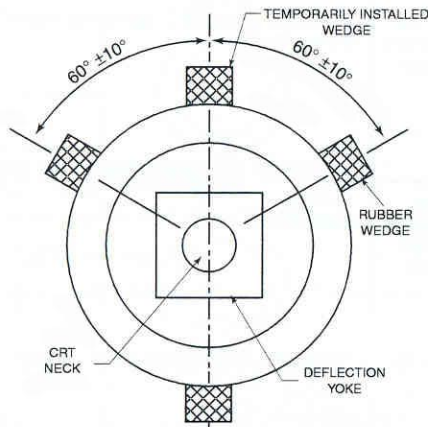

Figure 3
3. Insert three rubber wedges to the position as shown in Figure 3.
- 4) The position of each rubber wedge is shown in Fig. 3.